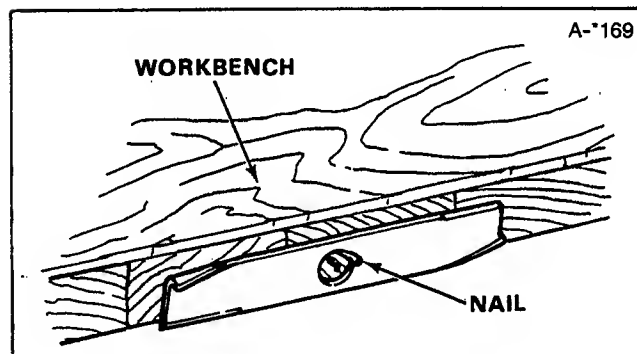

Figure 20. Balancing Blade
6. Check and balance blade. Use a balancing machine or the fixture shown in figure 20. File material off heavier end of blade until it is balanced.